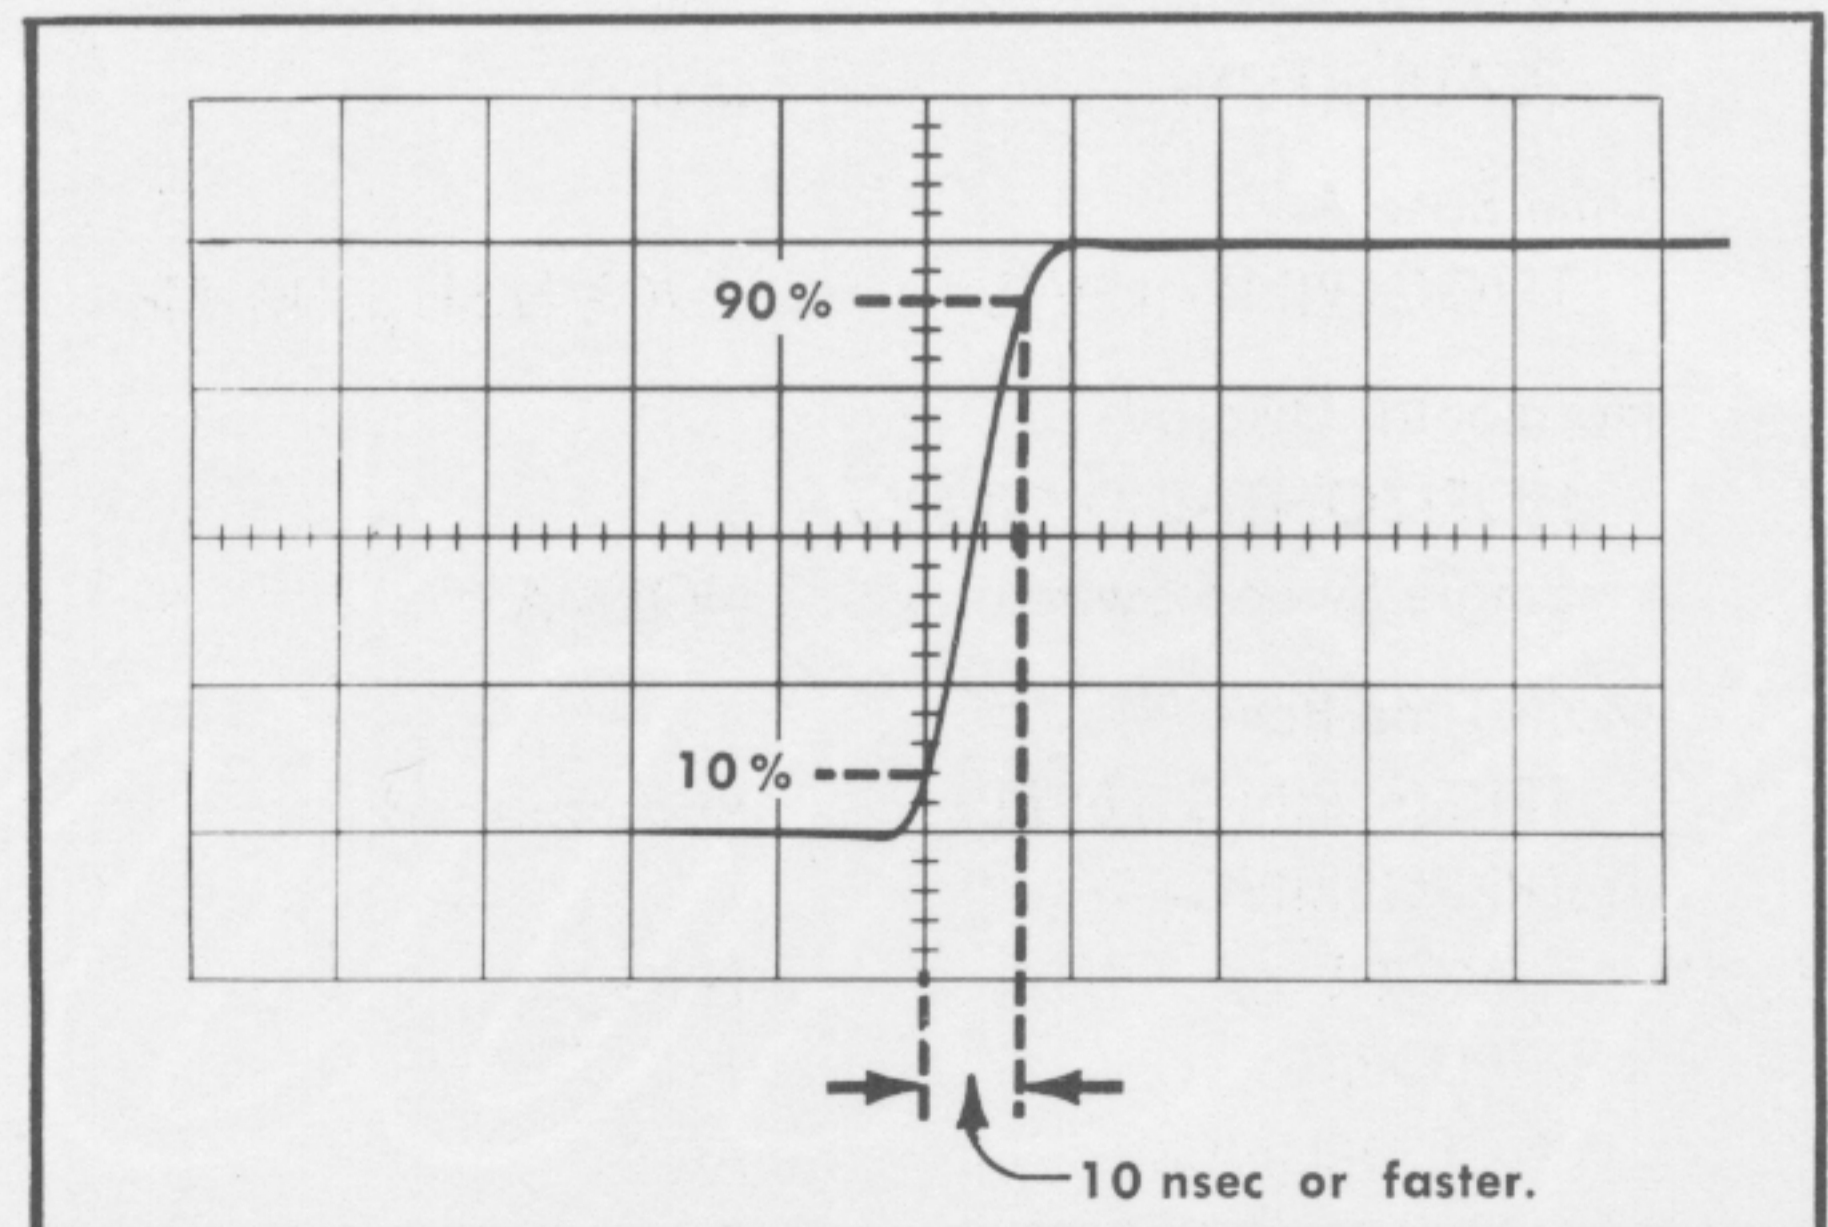

Fig. 5-15. Measuring the risetime of a normal waveform when SW1000 is actuated; sweep rate is 10 nsec/cm.
- b. Depress the Transient Response Compensation SW1000 (see Fig. 5-14a). Check the risetime of the step waveform (see Fig. 5-15). Overall risetime should not be any slower than 10 nsec.